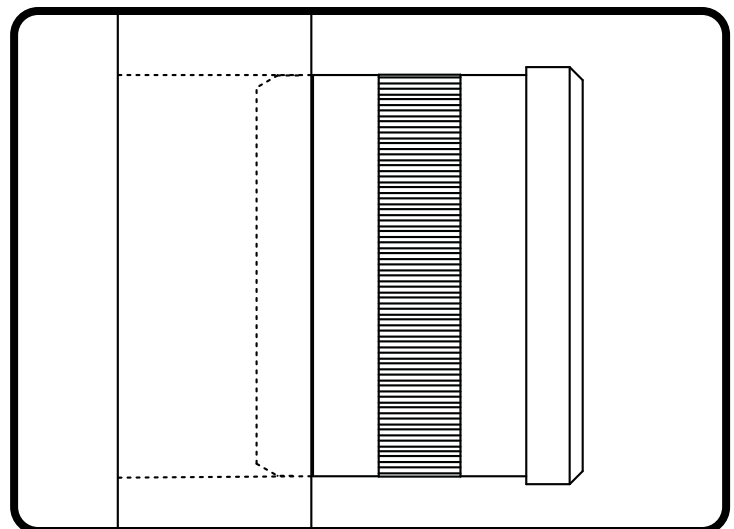

Figure 3
3. Start the R-Joint Housing into the OEM bushing hole by hand (Figure 3).